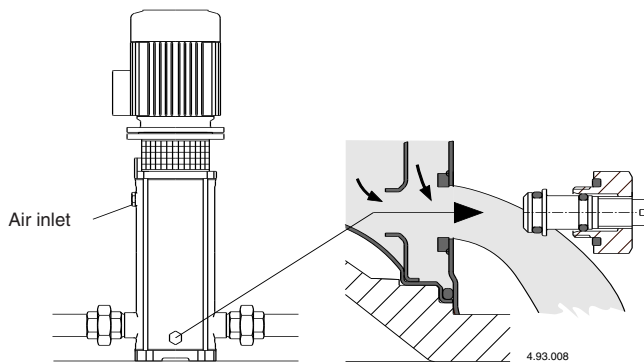

Fig. 4 Drainage
**When the pump remains inactive it must be emptied completely if there is a risk of freezing (fig.4).**
Before dismantling, close the gate valves in the suction and delivery pipes and empty the pump casing (fig. 4).